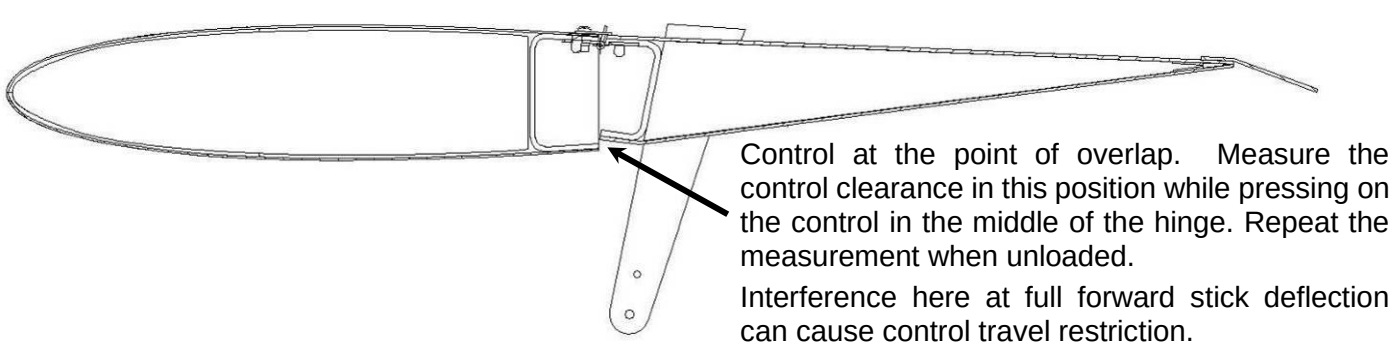

Figure 23 – Elevator Gap Cross Section (all J-Series)
- Travel restriction normally presents at the opposite control travel extreme to the control's point of overlap – i.e. for the elevator shown above (Figure 23) full stick-forward deflection is the point most likely to exhibit a travel restriction as the lower surface of the elevator hits the aircraft.